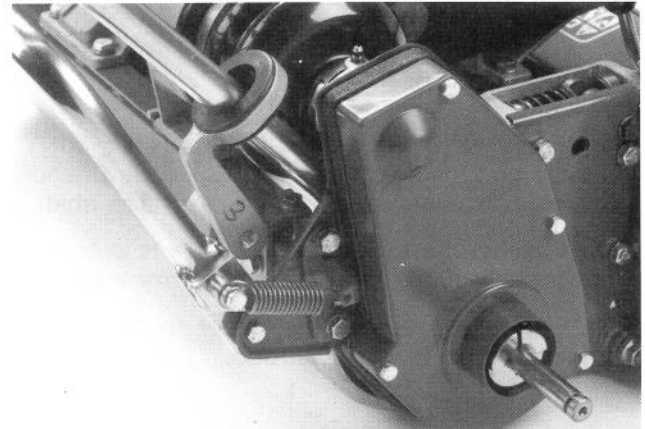

Figure 3
5. Hook spring onto bracket on right side of mower. Pivot kickstand upward and secure spring retainer to kick stand with a 5/16-18 x 2" lg. capscrew, washer and locknut (Fig. 3).